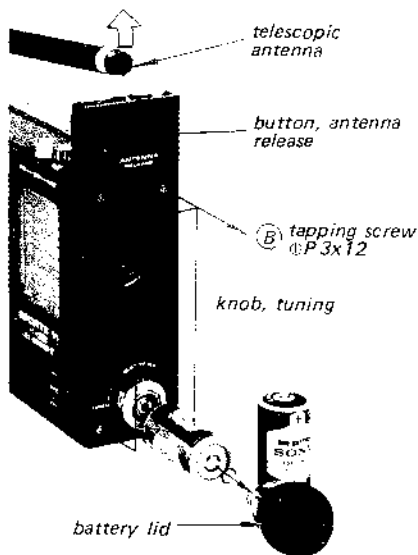

Fig. 2-2.
3. Press down the antenna release button shown in Fig. 2-2.
5. Remove the four screws labeled (A) in Fig. 2-2.
6. Pull out the right side cover with the tuning knob and battery lid as shown in Fig. 2-2.